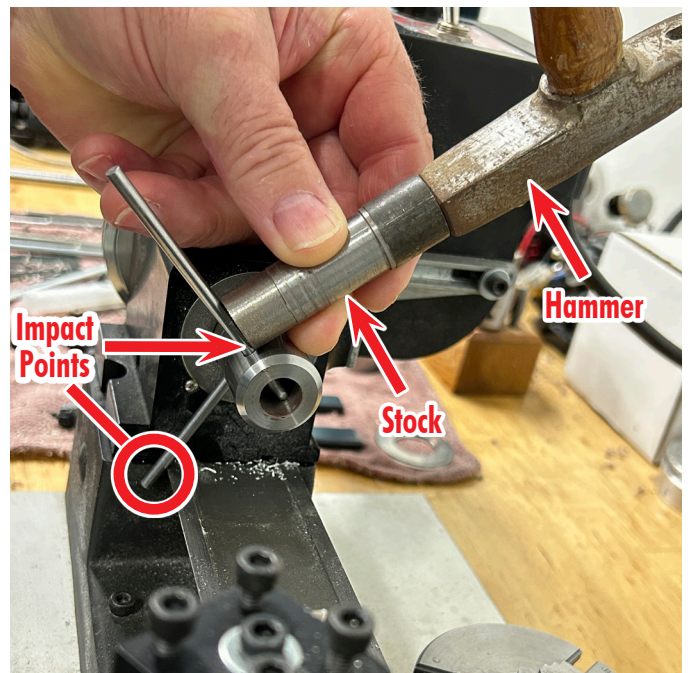

FIGURE 2
Tommy bar that is in the holder. You want the contact point to be as close to the entrance of the access hole in the holder as possible (see Figure 2).
- B. Now strike the end of the stock with a steel hammer so the impact point is at the top of the access hole. It may take two or three sharp blows (see Figure 2).